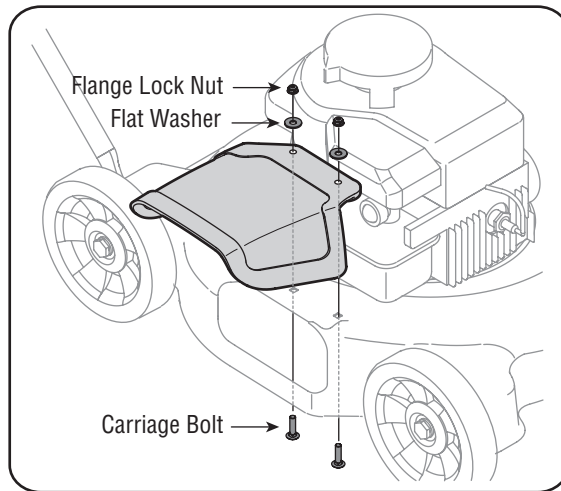

Figure 3-1
2. Insert carriage bolts up through the underside of the deck and through the chute deflector. See Figure 3-1.